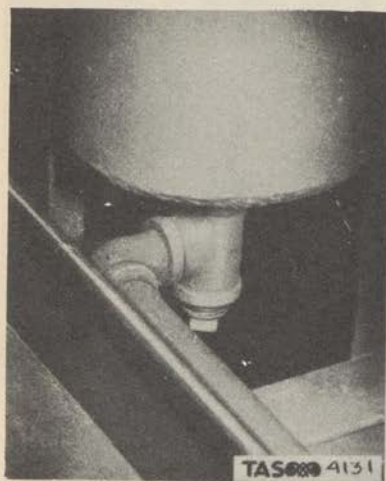

Figure 177. Air Chamber
(10) Remove a 3/4-inch drain plug in the air chamber line immediately beneath the air chamber. (Fig. 177)